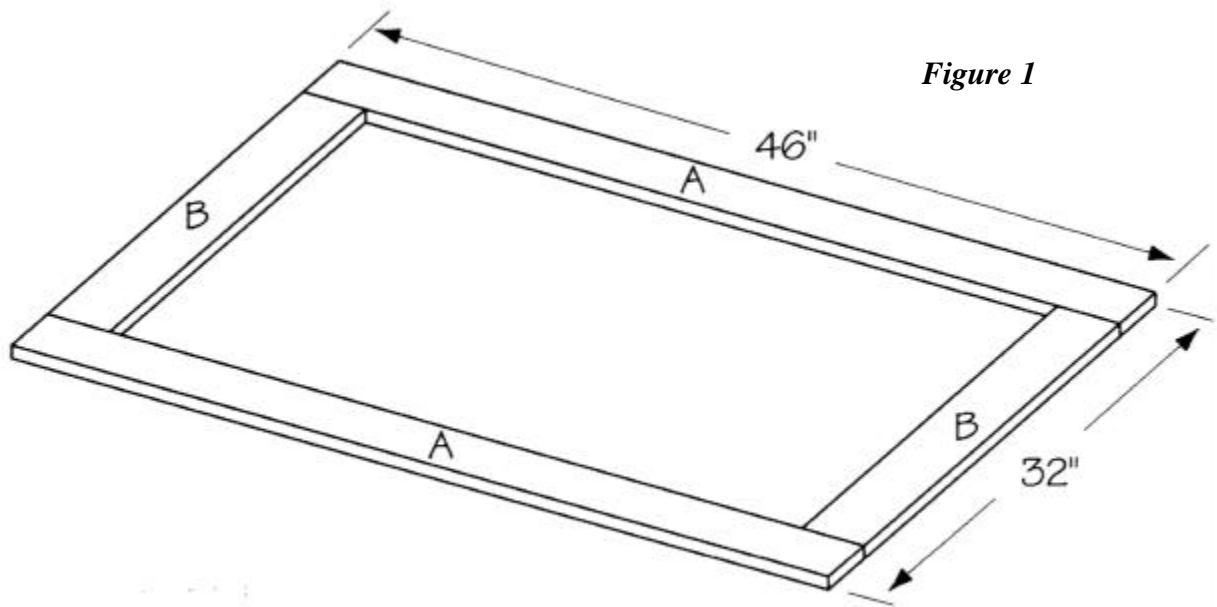

Figure 1
1. Cut two top/bottoms (A) from 1 x 4 pine, each measuring 46" long.
2. Cut two sides (B) from 1 x 4 pine, each measuring 25" long
3. Place the two top/bottoms (A) on a level surface, parallel to each other and 25 inches apart. Fit the two sides (B) between the two top/bottom (A) to form a 32 x 46-inch rectangle, as shown in *Figure 1*. Use two corrugated fasteners on each joint to hold the four pieces together. Place the inner fastener at least 1 inch from the inside of the frame.